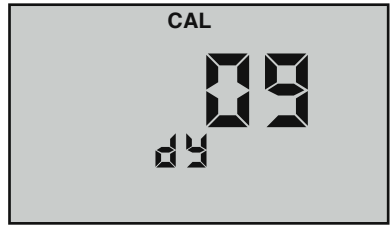

Figure 14
9. Press  to accept the change to the new day (see Figure 14).